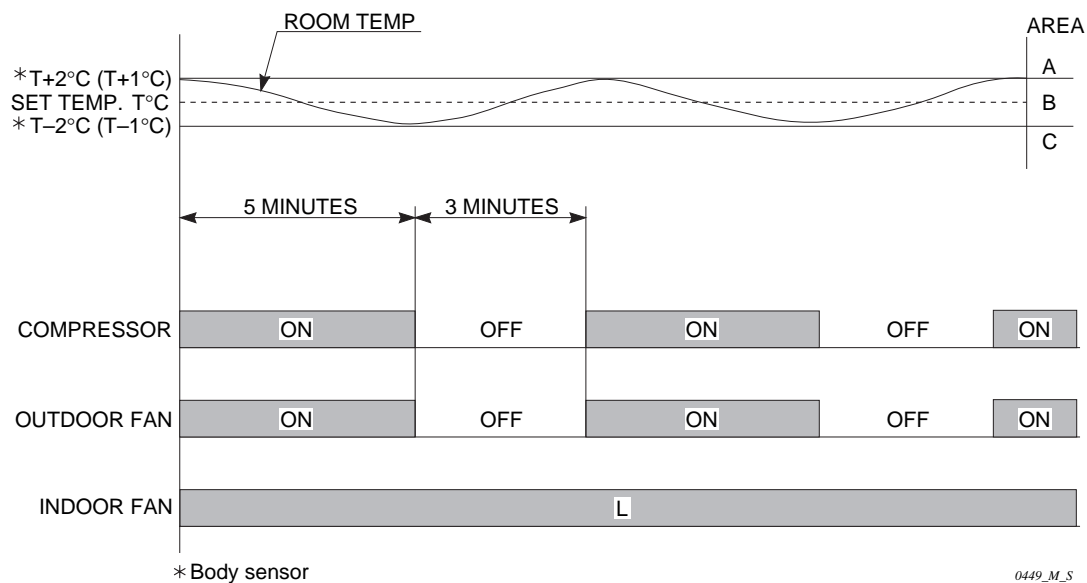

Fig. 20
- B range:** When the room temperature is in this range, the air conditioner automatically repeats the dehumidifying cycle of 5 minutes **ON**, 3 minutes **OFF** – see Fig. 20 for details.